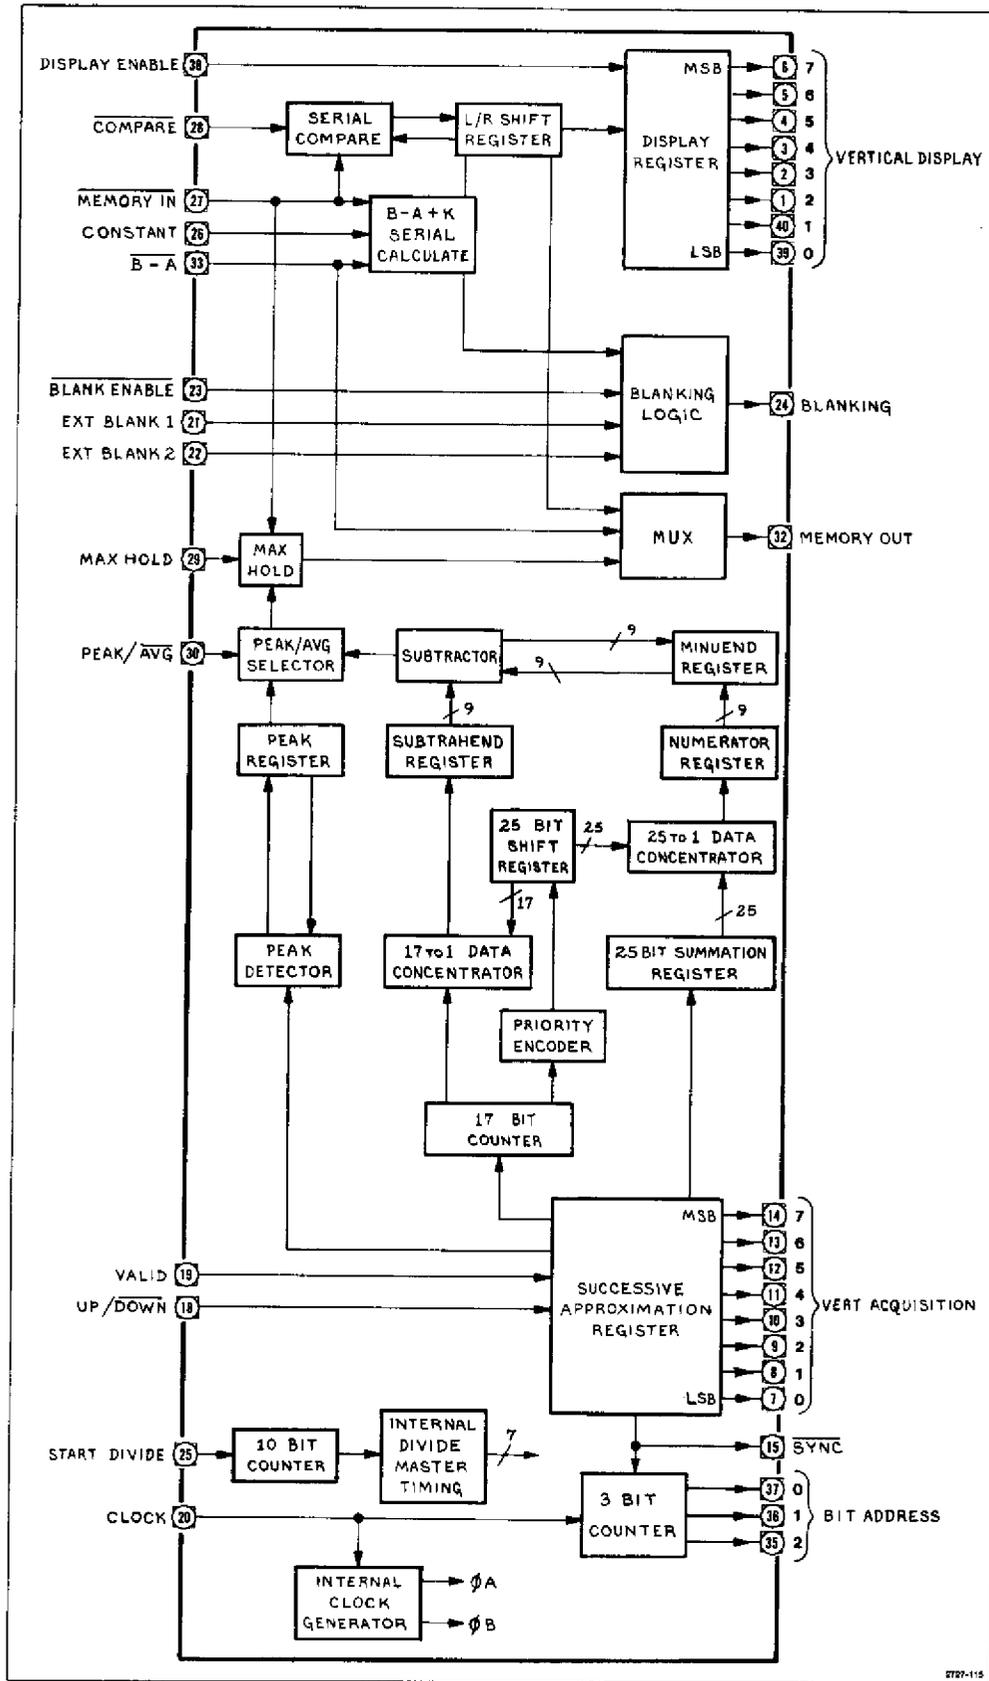

Fig. 5-12. Vertical control IC block diagram.
**Vertical Control.** (Refer to Fig. 5-12.) The vertical analog voltage is converted to a Y binary value using an 8-bit successive approximation register. Nine clock cycles are required for each Y conversion. After the conversion has taken place, the successive approximation register produces the negative-going SYNC signal. Most functions on both the vertical and horizontal control IC's are synchronized by this signal. On the negative-going transition of SYNC, the successive approximation register is reset to 10 00 00 00 (binary) and the next conversion cycle begins. Incoming data bits are latched into the successive approximation register on the negative-going clock transition. From the register, the output data are applied to the peak and the averaging circuits.
A division cycle is initiated when the horizontal control IC U2032, located on Diagram 26, detects a change in the X value. At that time, U2032 produces the ST DIV (start divide) signal. Upon receipt of this signal, and in synchronization with the SYNC signal, vertical control IC U1023 performs several functions (refer to Fig. 5-12):